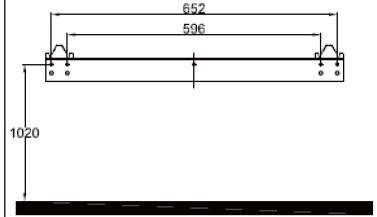

Fig.2
- A height of 600mm (24 inches) from bottom of heater to floor is recommended for optimum viewing of fuel bed (see Fig.2 for recommend fixing dimensions).
- For optimum viewing, mark the top five screws fixing positions on wall in accordance with the recommend fixing dimensions- see Fig.2. Drill holes with a six drill bit.